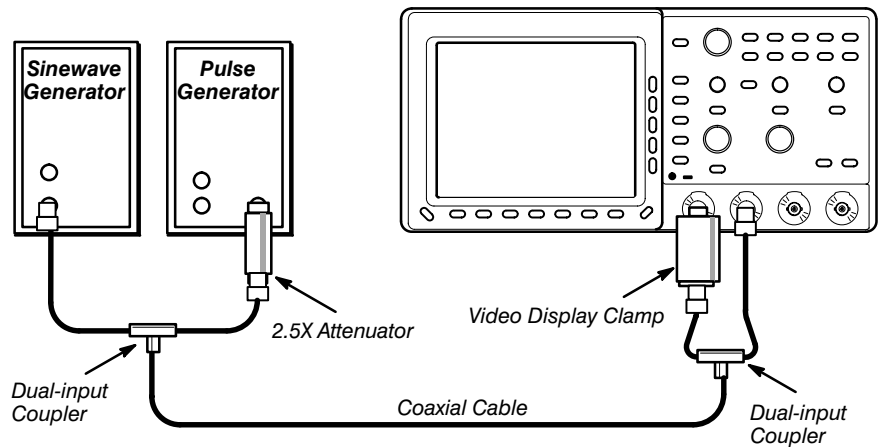

Figure 15: 60 Hz Rejection Test Setup
2. Connect the output of the pulse generator and the sinewave generator to the test oscilloscope as shown in Figure 15.